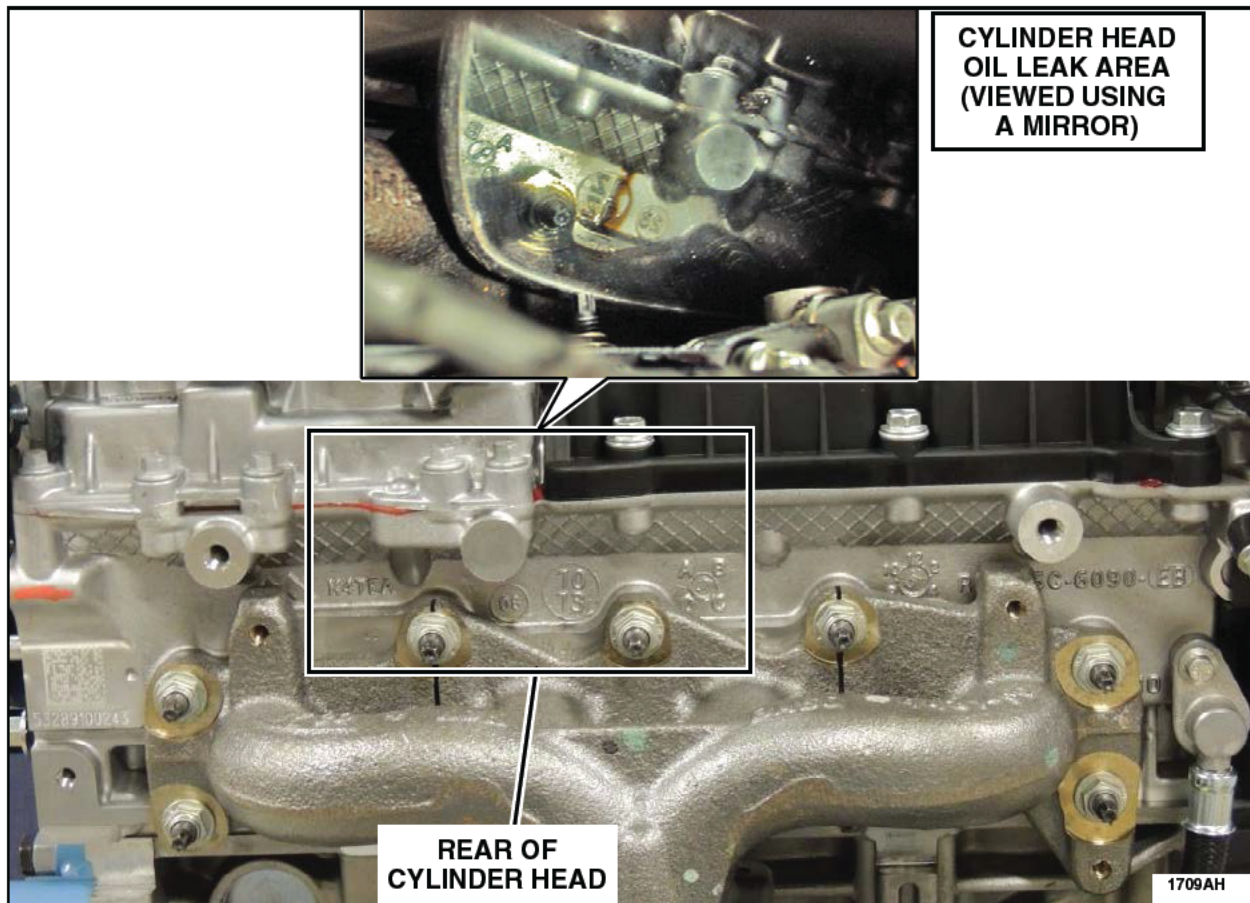

FIGURE B1
5. Check the engine oil level to ensure it is within normal range, note if it is overfilled. Visually check for engine oil leaks at the rear surface of the cylinder head, above exhaust manifold, that may be the result of a crack in the cylinder head. See Figure B1.